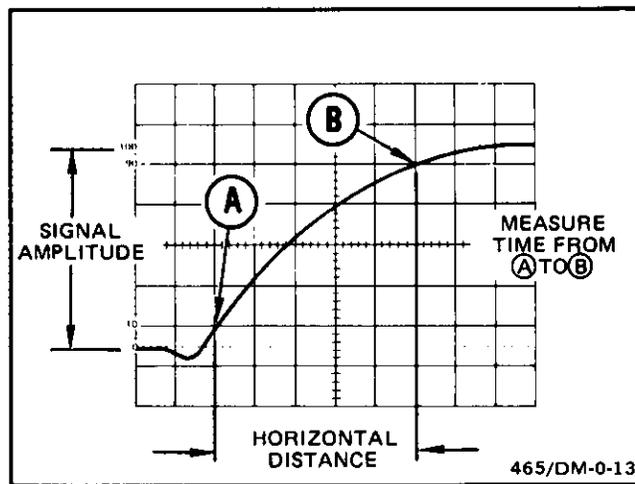

Figure 18. Rise time.
the 10% and 90% points on the leading edge of the waveform (see Figure 18). Fall time is measured between the 90% and 10% points on the trailing edge of the waveform.
of the waveform touches the 100% graticule line (see Figure 18).
7. Horizontally position the display so the 10% point on the waveform intersects the second vertical graticule line (see Figure 18, Point A).
EXAMPLE: The horizontal distance between the 10% and 90% points is 5 divisions (see Figure 18), and the A SEC/DIV switch is set to 1 $\mu\text{s}/\text{division}$. A magnification factor of 1 is used.